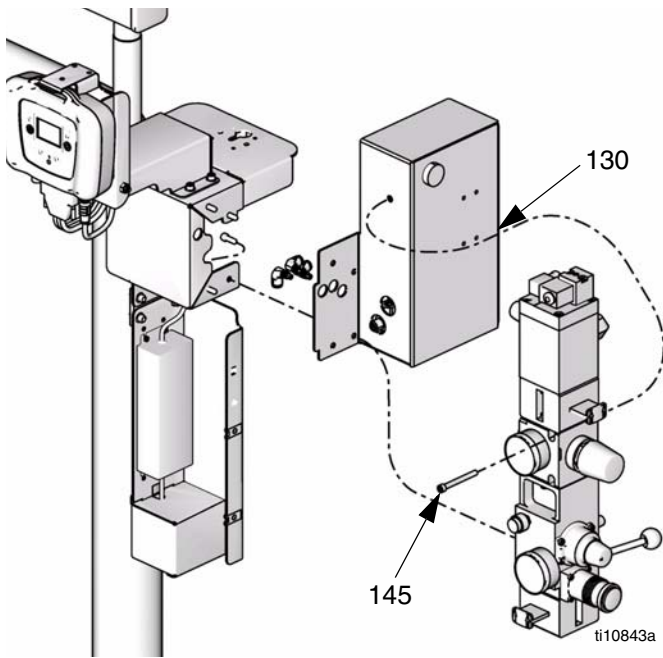

FIG. 9
See FIG. 9.
8. Insert cap screw (145) through integrated air controls into 2-button interlock module. See FIG. 9.